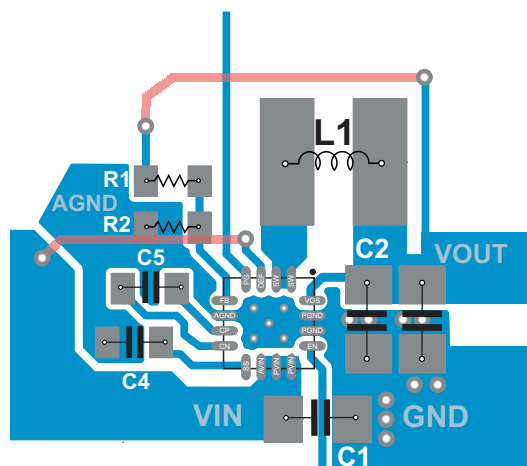

Figure 23. TLV62095 PCB Layout
- Refer to Figure 23 for an example of component placement, routing and thermal design.